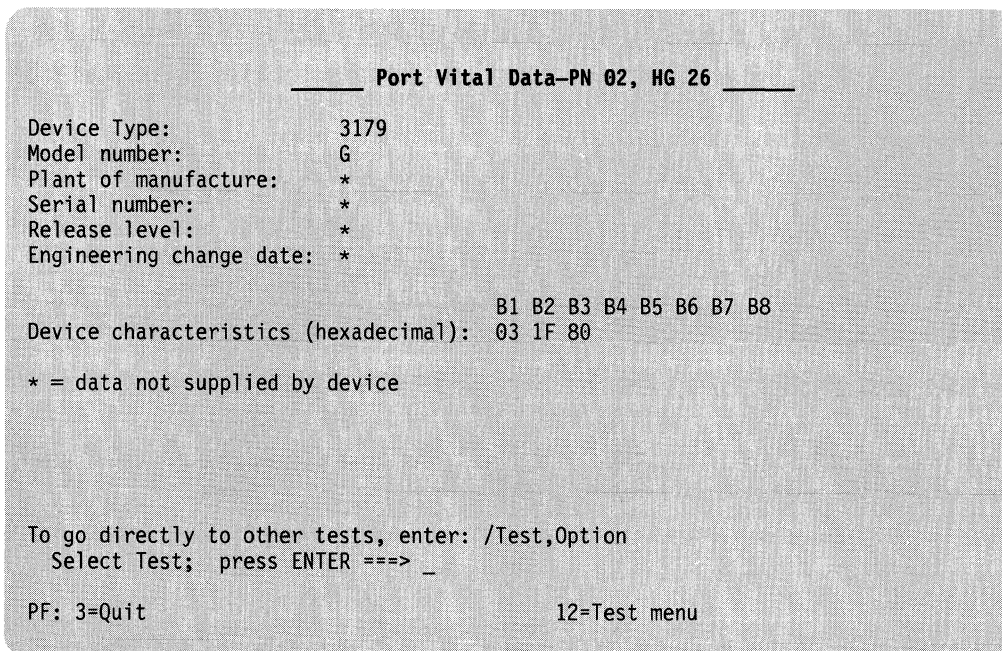

Figure 3-17. Example of a Port Vital Data Panel
**Option 2:** The Port Vital Data panel is displayed. See Figure 3-17 on page 3-23.
**Test 5, Option 2:** Type 2,n,m (n=port number, m=HG 21, 22, 23, or 26). The panel shown in Figure 3-17 is displayed.